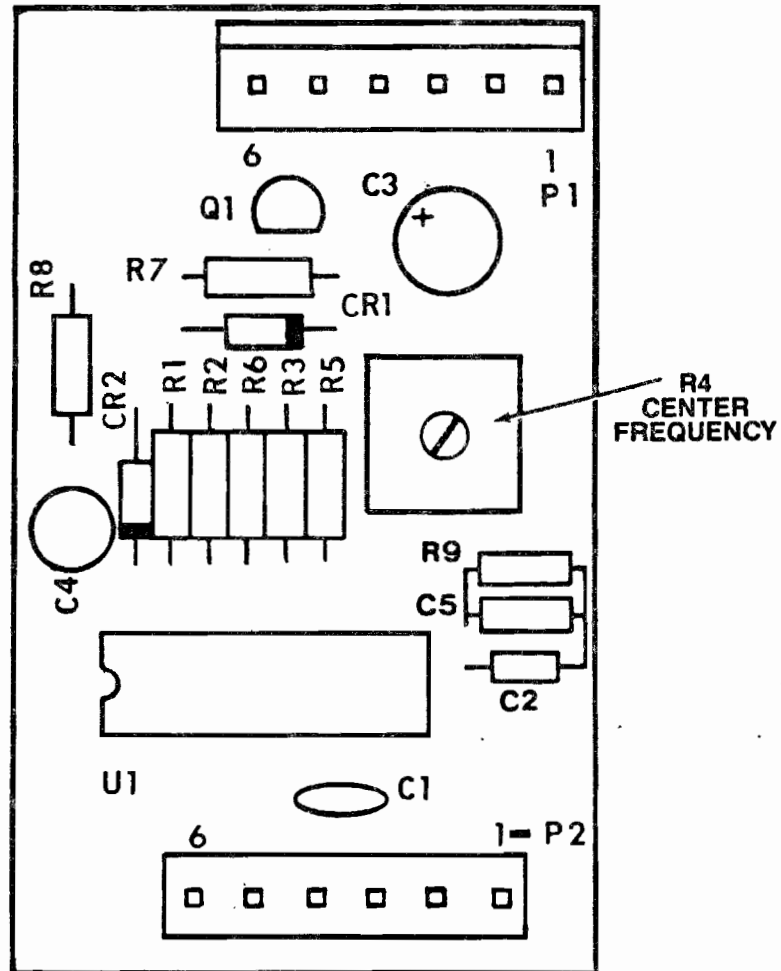

Figure 8A PLL Adapter PCB Assembly
1. Set CENTER FREQUENCY control (R4) to the center of its adjustment range. Refer to Figure 8A for the location of CENTER FREQUENCY control (R4).
{ } Add the Figure 8A PLL Adapter PCB Assembly illustration and parts list at the back of this change order to the back of the TM-199 parts lists.